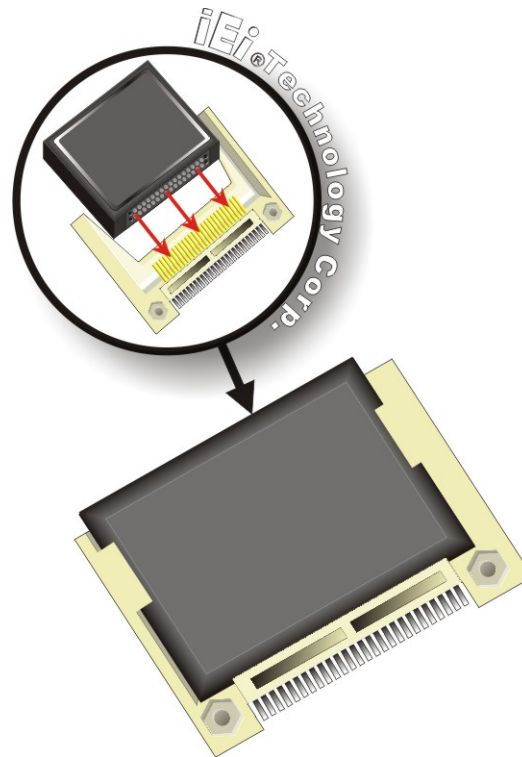

Figure 5-2: CF Card Installation
- Step 3: Insert the CF card.** Gently insert the CF card into the socket making sure the socket pins are properly inserted into the socket. See **Figure 5-2**.